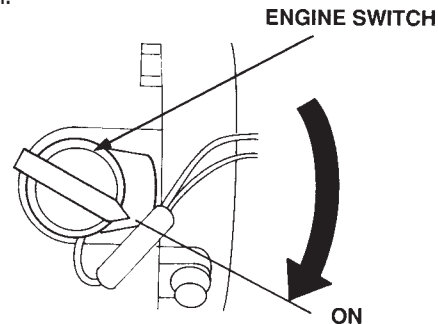

Figure 16. Engine ON/OFF Switch (ON Position)
5. Place the *engine ON/OFF switch* (Figure 16) in the "ON" position.